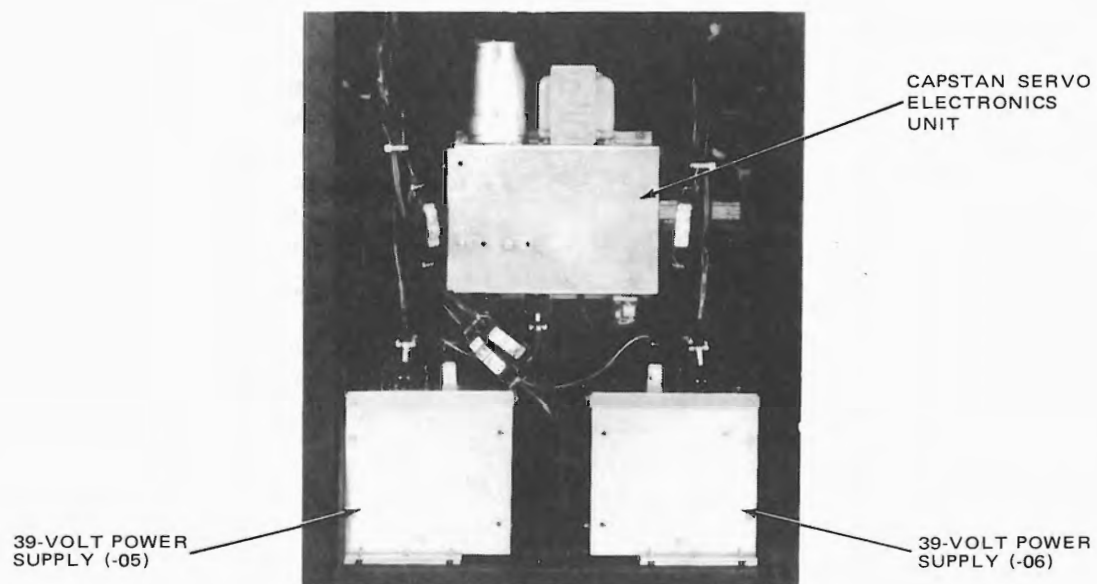

Figure 2-4. Capstan Servo and 39-Volt Power Supplies
4. Captive cable from 39-Vdc power supply (Figure 2-4) to J606S on tape transport control box.
**The power-supply cover (Figure 2-4) must be opened to gain access to regulator/bias oscillator PWA.**